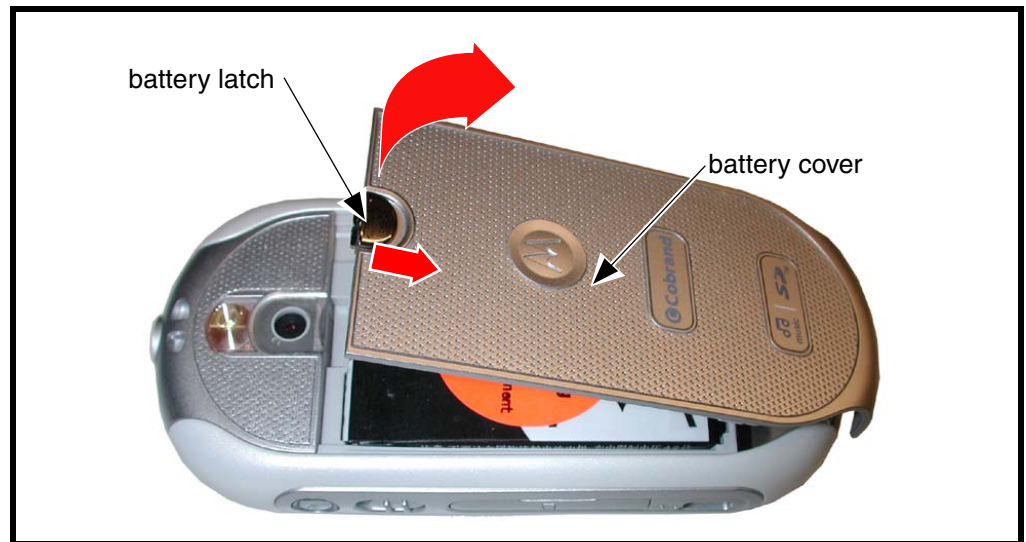

Figure 8. Removing the Battery Cover
3. Press down on the battery cover latch on the back of the phone and slide it the direction of the arrow and then lift the battery cover away from the phone (see Figure 8).